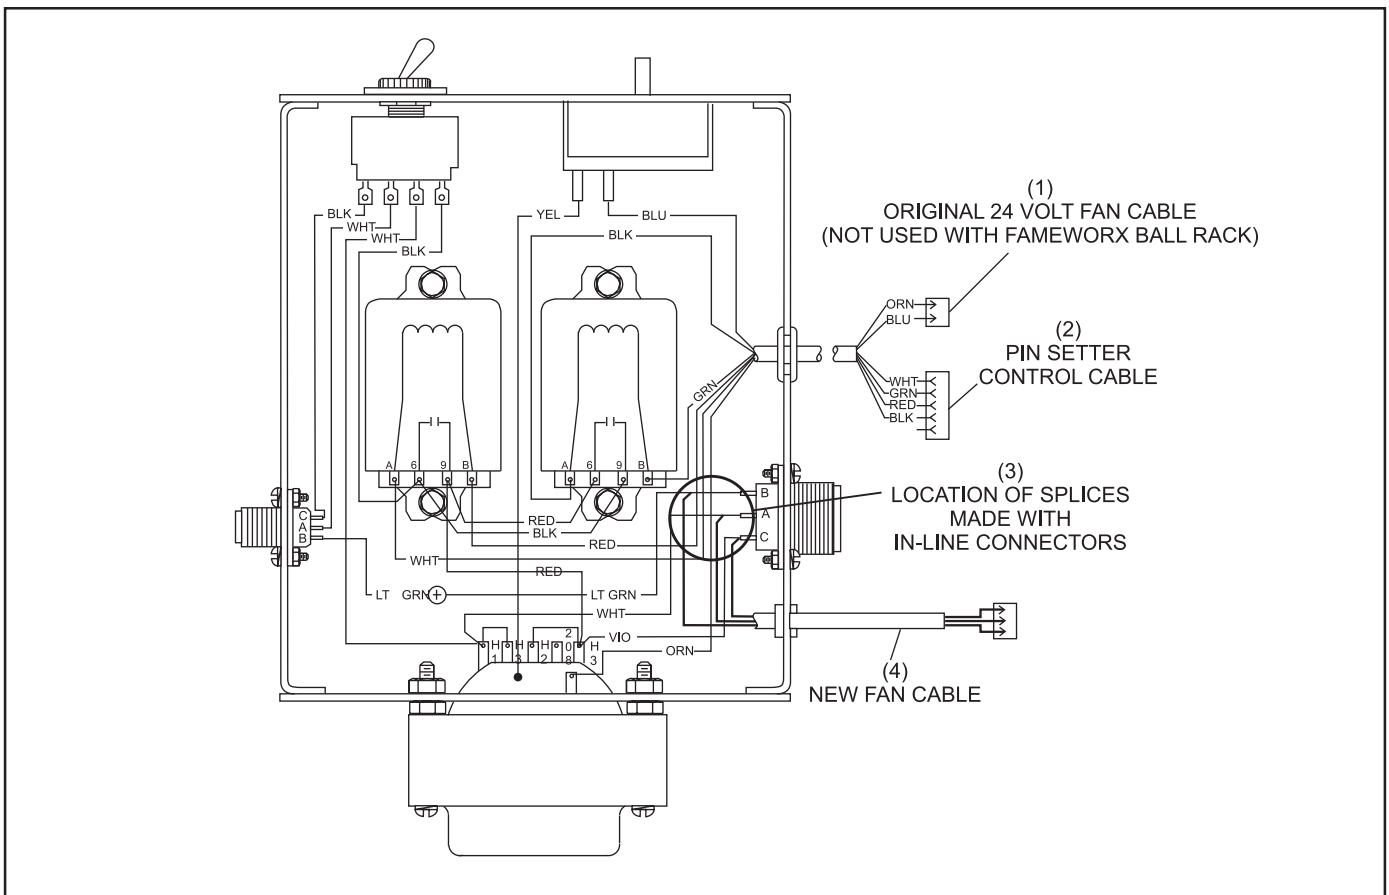

Figure 16. Connect Fan Cable
3. Run the end of the cable with the strain relief bushing through the hole previously drilled in the control box until the bushing snaps into place. Refer back to *Figure 16*.
4. Using the three in-line connectors, splice the three fan cable wires into the three wires of the ball lift motor connector: Refer to *Figure 16*.